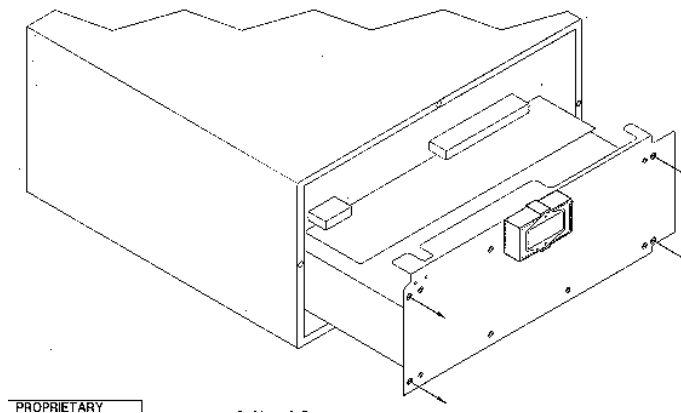

Figure 19
9. Loosen the 4 screws marked A1 thru A4 in FIG 17 which secure the PSU module (2 turns each in sequence untill all 4 are loosened). Withdraw the PSU assembly from the rear of the 70843A/B as shown in FIG 19.